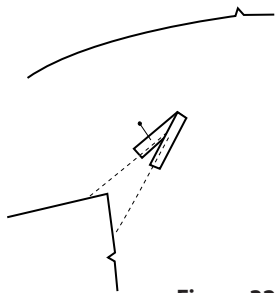

Figure 32
1. Using a 4-inch piece of seam tape, fold tape in half, forming a V. Position and pin tape to right side of garment so that the V of the tape coincides with the V of the slash point (Figure 32).